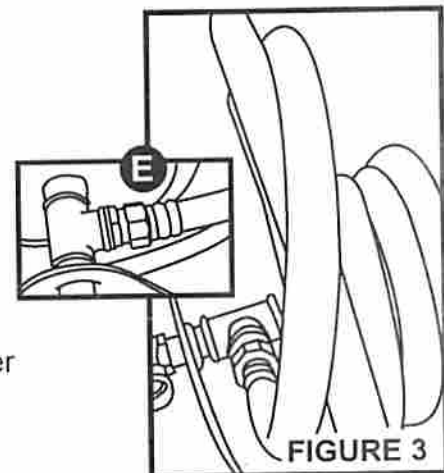

FIGURE 3
4. Attach your garden hose to the hose connection and wind around the hose reel spool (E). **Figure 3**